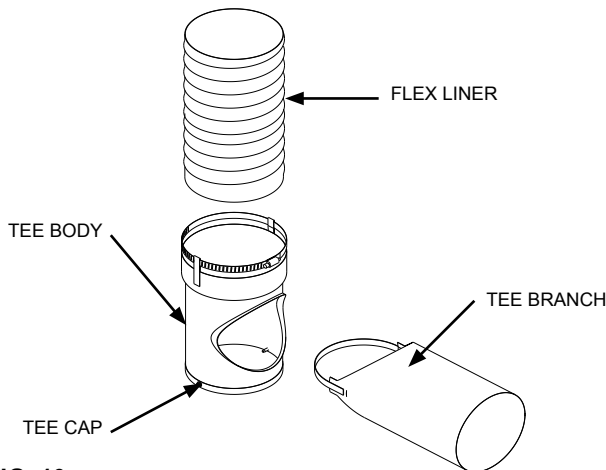

FIG. 10
Step 1: When a Tee is required and the masonry chimney has no offsets, remove the Tee Branch and attach Tee Body to liner with hose clamp (See FIG. 10). Tee Cap should be attached to the bottom of tee Body.